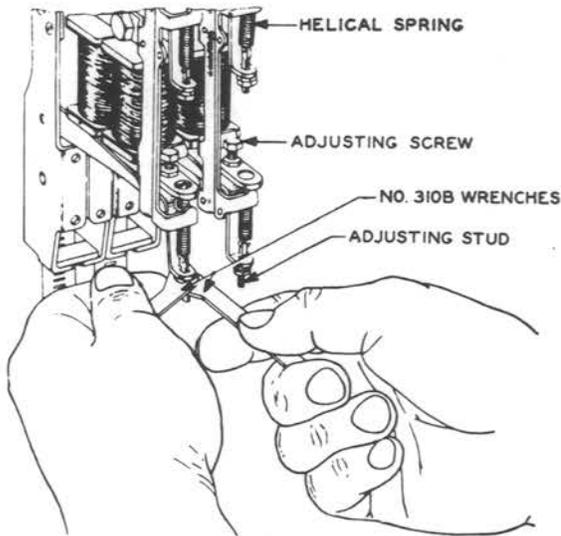

Fig. 8 - Method of Replacing Adjusting and Locknuts
3.21 Remove the adjusting and locknuts from the adjusting stud with two No. 310B wrenches as shown in Fig. 8, and remove the adjusting stud from the roller arm.
3.26 Loosen the adjusting nuts with the No. 310B wrenches in a manner similar to that shown in Fig. 8. Then turn the adjusting screw sufficiently to remove the nuts.